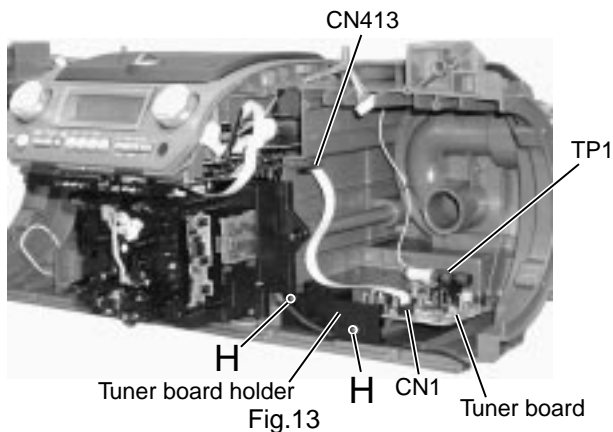

Fig.13
**■ Removing the tuner board (See Fig.13)**